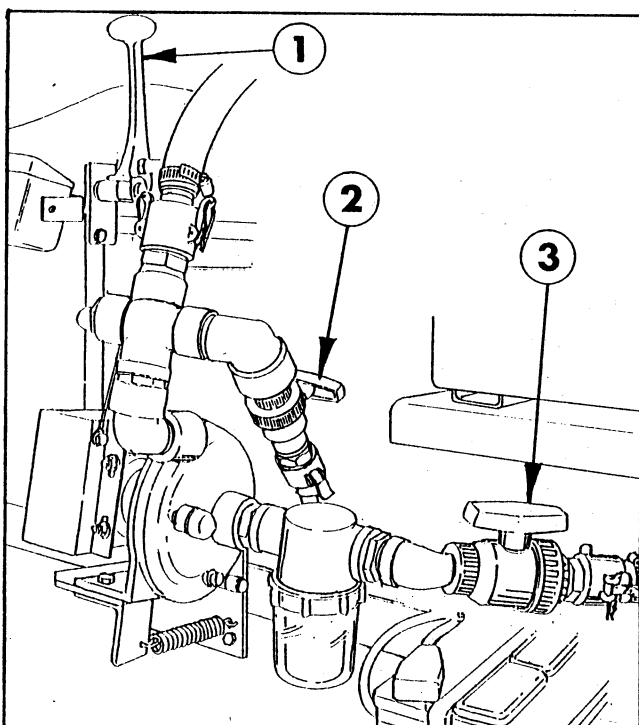

Fig. 1
**PUMP ENGAGEMENT LEVER (FIG. 1):** Pivot the pump engagement lever DOWN to lower the centrifugal pump and ENGAGE the drive belt. Pull the lever UP to DISENGAGE the drive belt.
### JET AGITATOR VALVE HANDLE (FIG. 1):
### SUCTION VALVE HANDLE (FIG. 1):